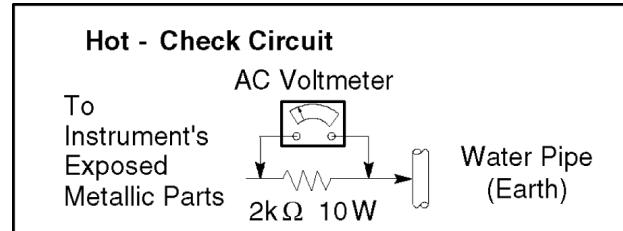

Fig. 3
4. Check each exposed metallic part, and measure the voltage at each point. Fig. 3.
<p>1. Receive a 3.58 MHz NTSC rainbow pattern</p> <p>2. Connect oscilloscope to A21 pin 6.</p> <p>3. Set controls: BRT.....CENTER COLOUR.....CENTER CONTRAST....MAX NTSC TINT.....CENTER AI.....OFF</p>	<p>1. Adjust Sub NTSC Tint so that the peak of level of waveform is similar to Fig. 3</p> <p>2. Receive the Rainbow pattern (3.58 MHz NTSC) on both of Main and Sub pictures.</p> <p>3. Adjust Sub NTSC Tint 2 so that the peak of level of $1.3 \pm 0.5V$</p>